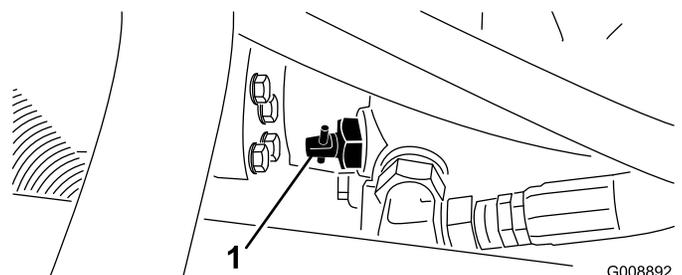

Figure 26
1. Locate the bypass valve on the pump (Figure 26) and rotate it 90°.